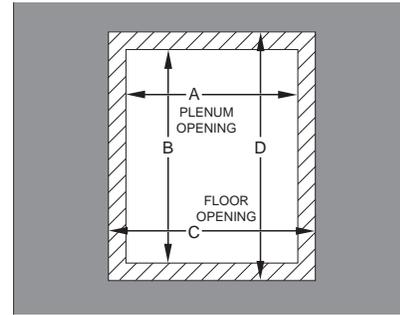

Fig. 9 – Floor and Plenum Opening Dimensions
2. Construct hole in floor (see Table 3 and Fig. 9).
3. Construct plenum to dimensions specified (see Table 3 and Fig. 9).